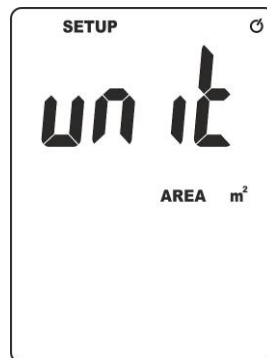

Fig. 3: Setting the measuring unit of the area of the duct
2. Press and hold (>2s) key **☀/SET** to enter the setting mode. The screen with the indication of the currently set measuring unit of the area of the duct is shown on the display (see Fig. 3)